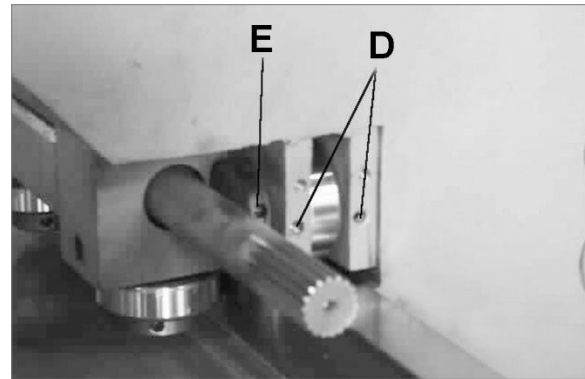
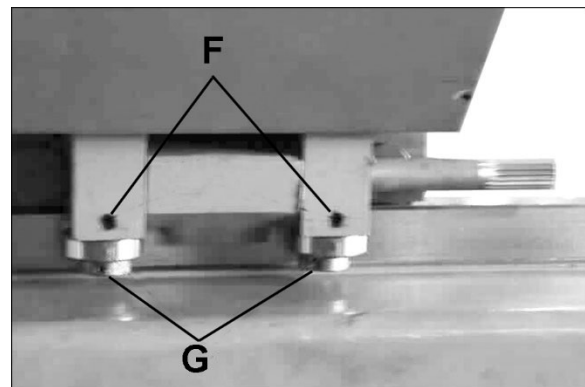

Figure 9-2
Figure 9-3
2. Loosen set screws (D, Figure 9-2).
3. Insert hex key into hole (E), and rotate bearing shaft. Rotate handwheel to move head along rail; it should be snug but still easily turned.
4. Tighten set screws (D).
6. Back at the original side of head, loosen set screws (F, Figure 9-3).
7. Insert hex key into hole (G) and rotate bearing shaft. Test handwheel tightness again. When satisfied, retighten set screws (G).